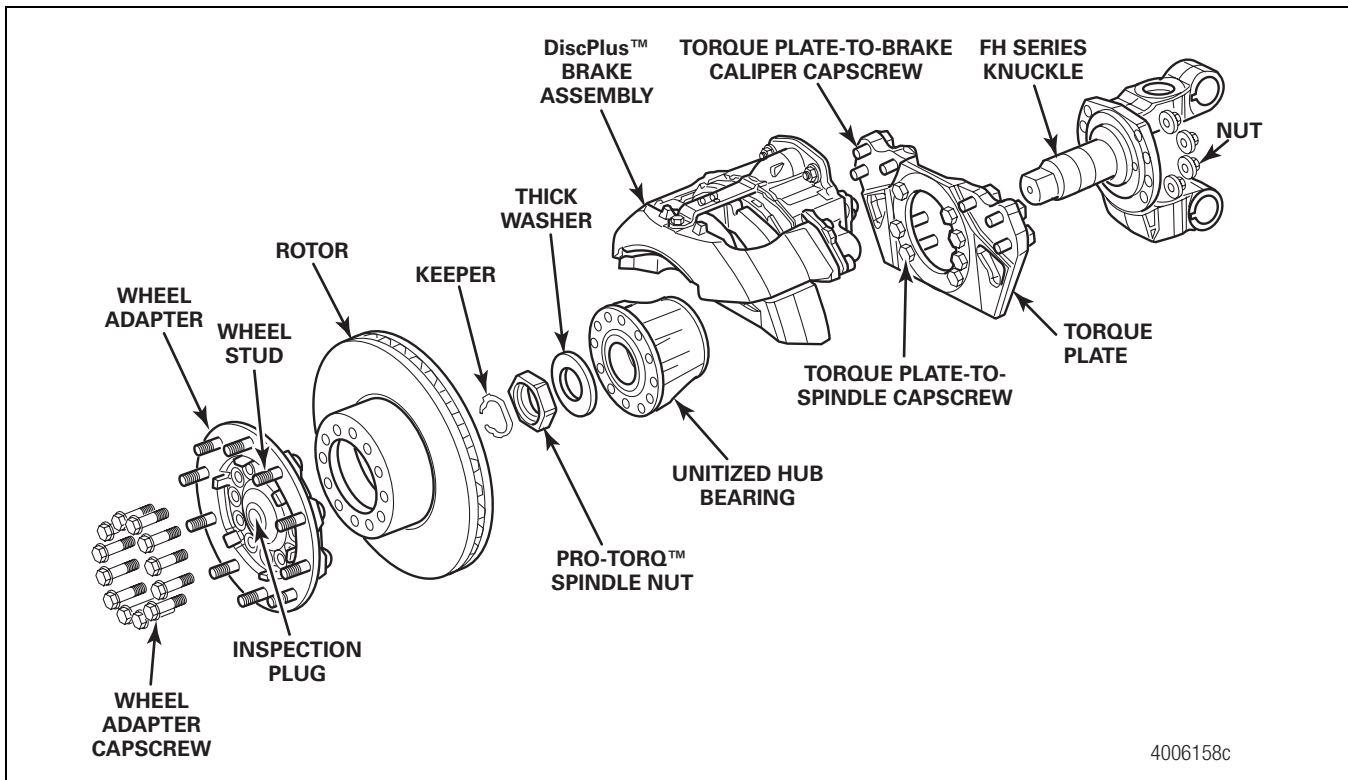

Figure 13.24
- Remove the wheel adapter and rotor. Inspect the rotor for cracks and signs of wear. Replace the rotor if necessary. Figure 13.24.